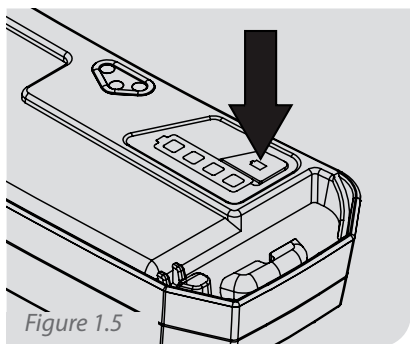

Figure 1.5
2. **BATTERY PACK:** Check that the battery has a full charge (see the battery test strip on the top of the battery, Fig 1.5) to confirm that there is sufficient charge for the work period that you need to accomplish. Make sure that the battery is securely fitted to the PX4 AIR PAPR.